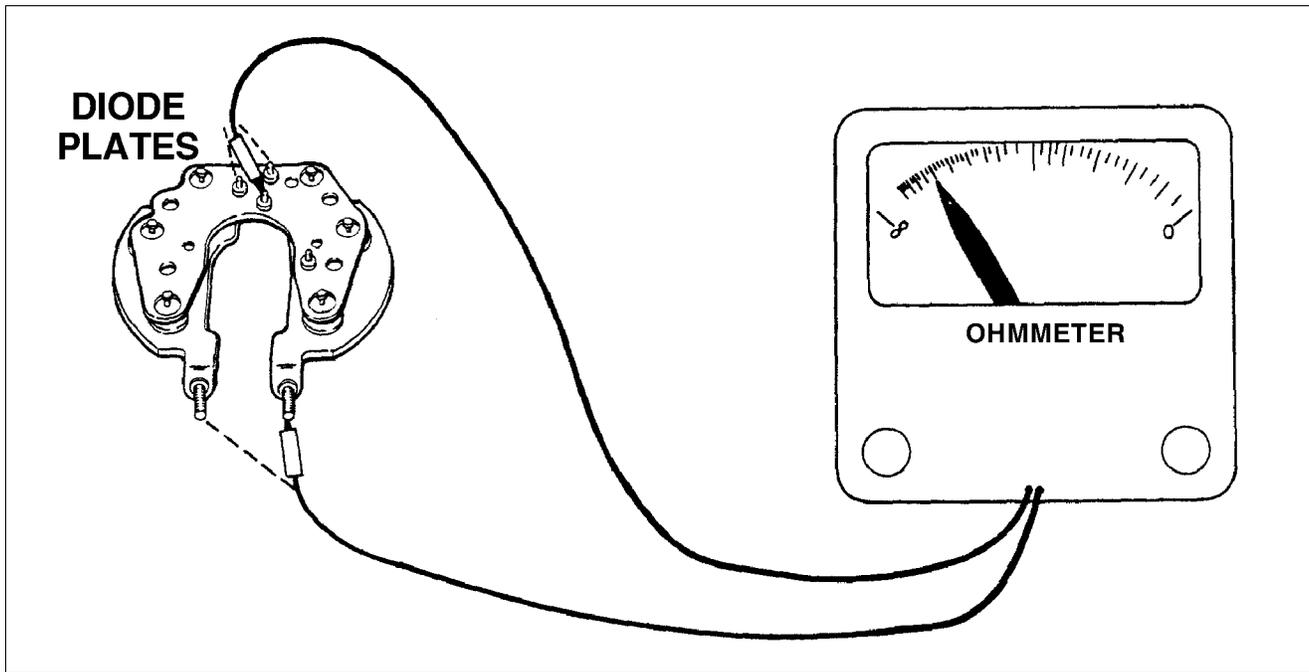

Figure 24-17. Diode Testing
g. Diode Testing (Refer to Figure 24-17)